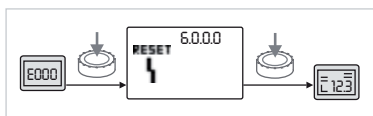

Fig. 60: Acknowledge error type E or F
- If type E or F errors occur, proceed as follows to acknowledge (Fig 60):